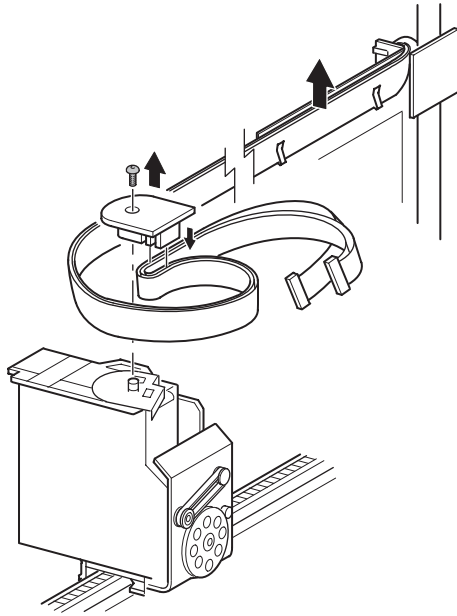

Figure 3–43: Removing the spool/flex cable from carrier and guide
4. Press down on the release latch to remove the connections of the flex cable from J9 and J3 locations of the board on the robot shuttle (see Figure 3–43).